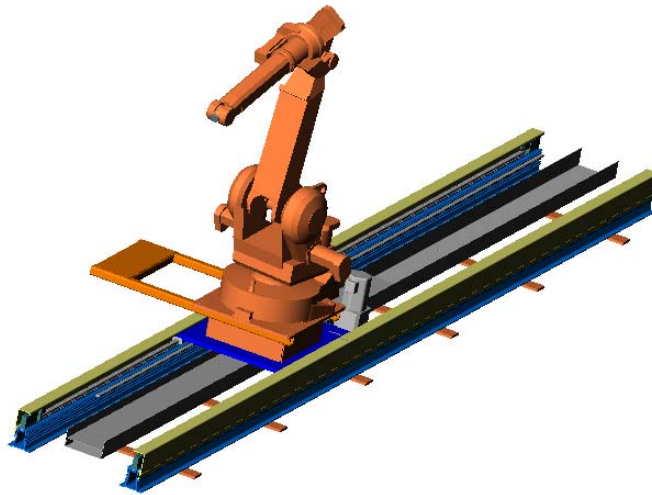

Figure 7 Travel track
- 7 Travel track, (not shown in this figure, see Figure 7)